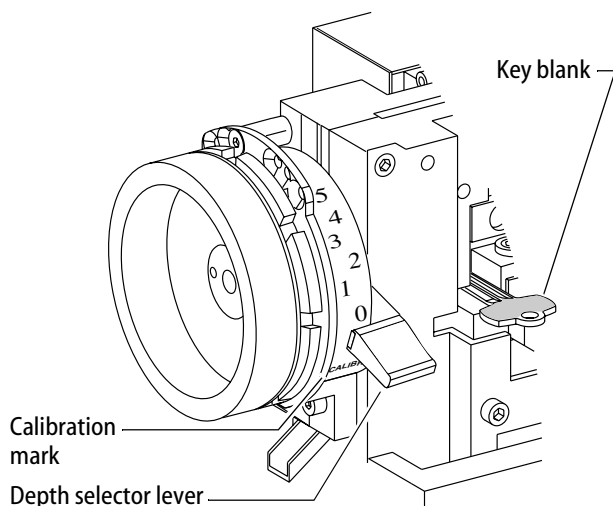

Figure 1
- 1 Load a key blank into the key carriage. See Figure 1.